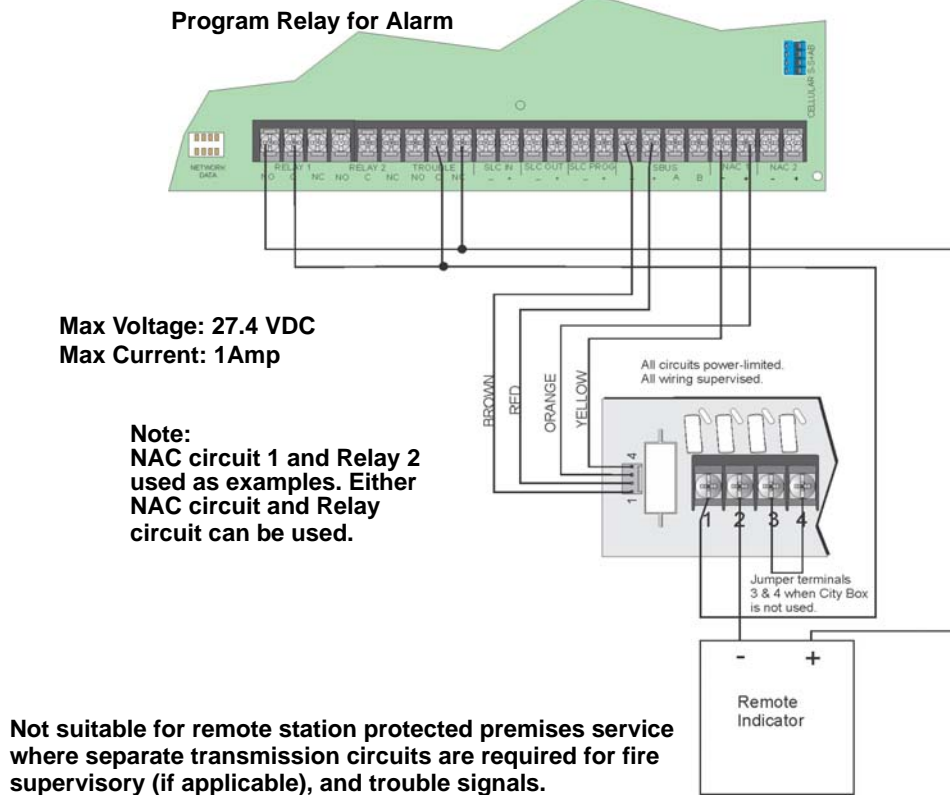

Figure 4.51 Polarity Reversal Connection Using the 5220 Module
2. Wire the 5220 to the control panel using the four-wire pigtail provided as shown in Figure 4.51. This diagram also shows how to connect the 5220 to the remote indicator. Do not install an EOL resistor in the terminals of the NAC circuit used for this application.